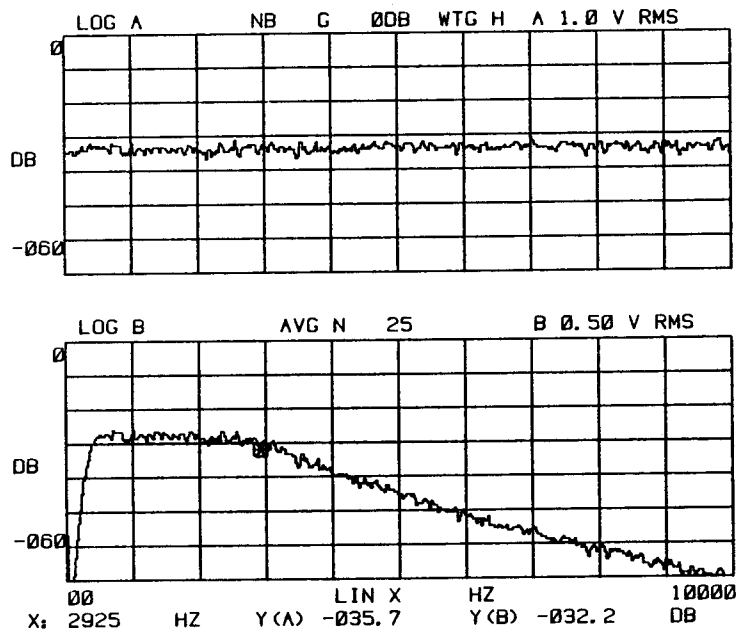

Figure 4-10. Initial Setup Display, ADRS 117, (2925 Hz), AGV N 25.
- k. Press the CURSOR group ADRS touch control. Press the following PARAMETERS group touch controls in sequence: On the numbered keyboard select the number 117 and then press ENT and compare the display with Figure 4-10.